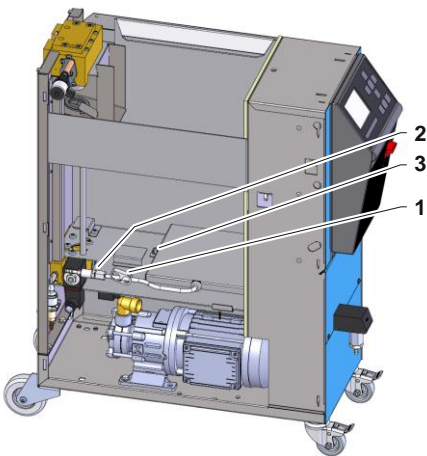
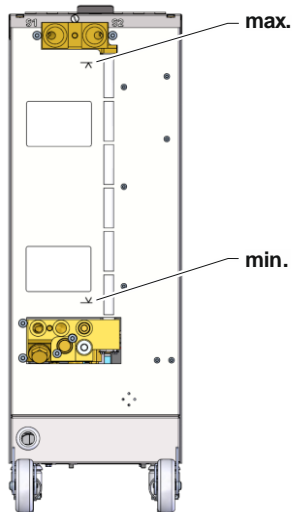

Fig. 1: View inside tank
Fig. 2: Back of unit
5. Remove filter basket (17) from tank.
6. Proceed as follows in order to remove the fill level container (18):
- Pinch hose clip (Label 1 → Fig. 1) on fill level container.
- Undo screws on hose line (Label 2 → Fig. 1).
- Remove mounting nut (Label 2 → Fig. 1) with spring washer.
7. If the existing screws (Label 2 → Fig. 1) are made of brass, they must be replaced with stainless steel screws (O/ID T18899).
8. Proceed as follows in order to fit the fill level container (18):
- Attach new fill level container to the base of the tank and secure with a nut and a spring washer (Label 3 → Fig. 1).
- Connect hose line screws (Label 2 → Fig. 1) to the respective connector.
- Open hose clip (Label 1 → Fig. 1) on fill level container.
9. Insert filter basket (17) into tank.
- Fill tank manually up to Maximum mark (→ Fig. 2).
- Fill level is below the Minimum mark (→ Fig. 2).